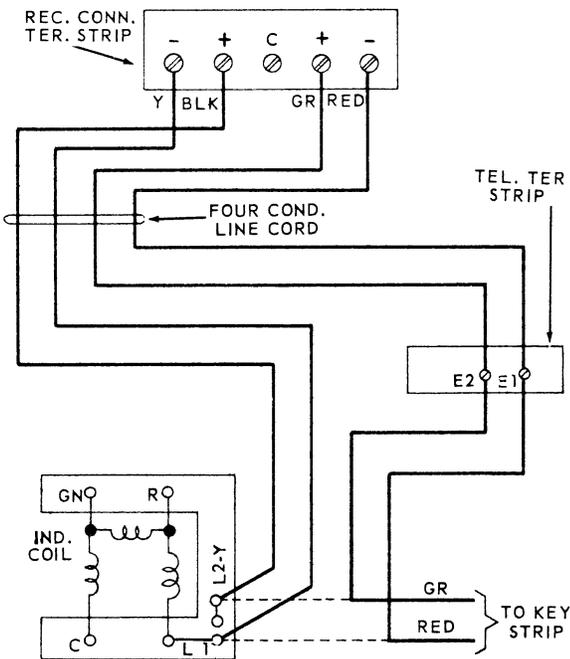

Fig. 9. Modifications of Type 400 Key Telephone.
3.09 Modify the 400 telephone set with 1A 10A, 1A1 and 10A1 wiring per Fig. 9.